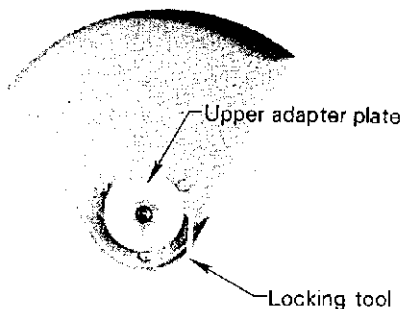

Fig. 12
2. Rotate the drive shaft until the holes in the upper adapter plate and the gear box are aligned. Insert the locking tool. See Fig. 12